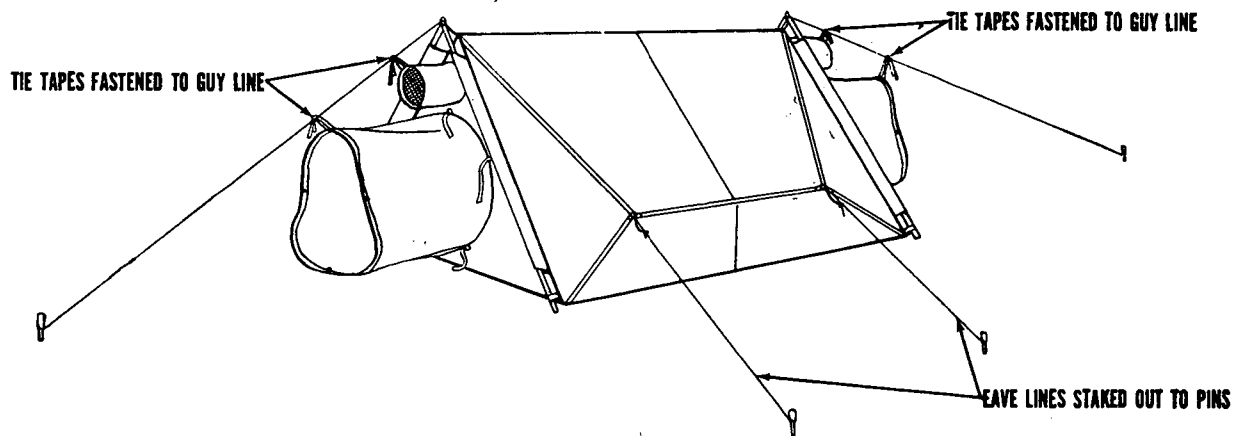

Figure 46. Steps in pitching tent, mountain, 2-man.
(1) Preliminary procedures (1, fig 46).
(2) Inserting poles through loops and sleeves and attaching adapters (2, fig 46).
(3) Raising front end of tent (3, fig 46).
(4) Raising rear end of tent (4, fig 46).
(5) *Tying ventilator and entrance tie tapes to guy lines and staking out eave lines* (5, fig 46).